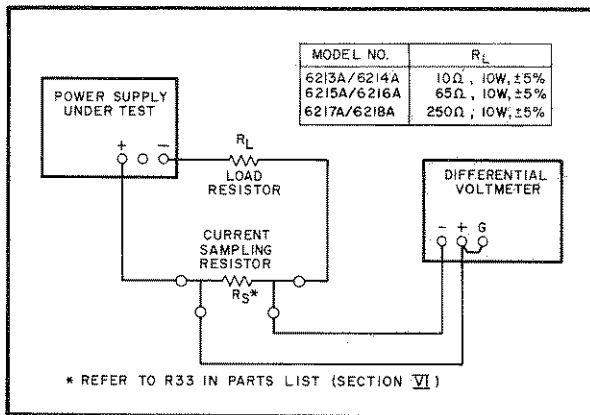

Figure 5-4. Output Current, Test Setup
- Connect load resistor ( $R_L$ ) indicated in Figure 5-4 across the output terminals of supply.
- Connect test setup shown in Figure 5-4.